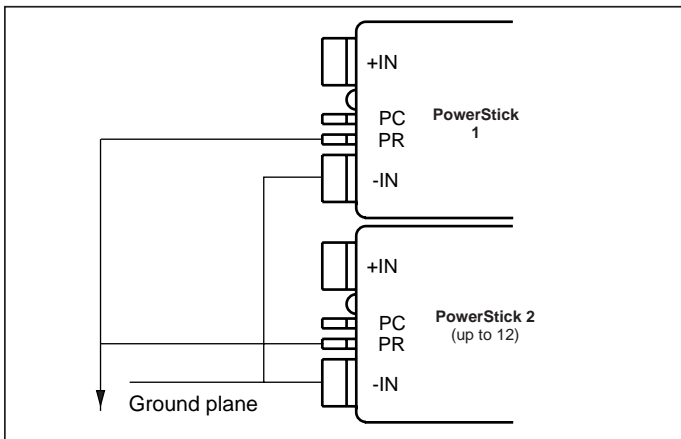

Figure 9—DC coupled single-wire interface.
**DC coupled single-wire interface.** All PR pins are directly connected to one another. This interface supports current sharing but is not fault tolerant. Minus In pins must be tied to the same electric potential. See Figure 9.